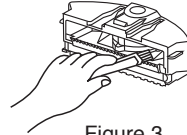

Figure 3
2. First empty the dust into a bin, and then clean the inside with the dust brush supplied (Refer Fig 3).